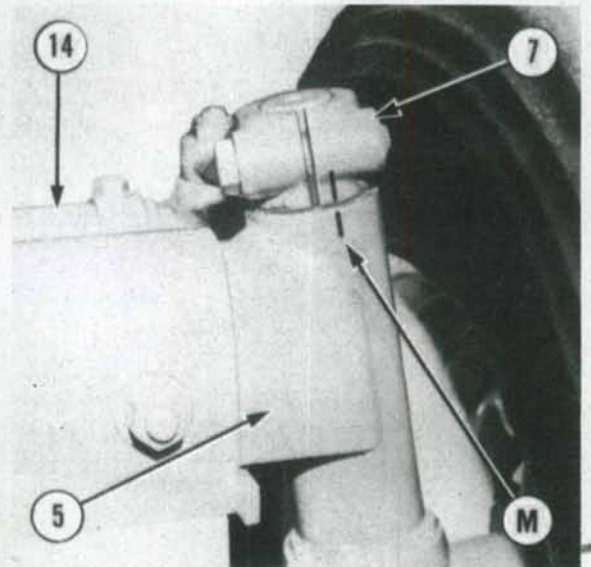
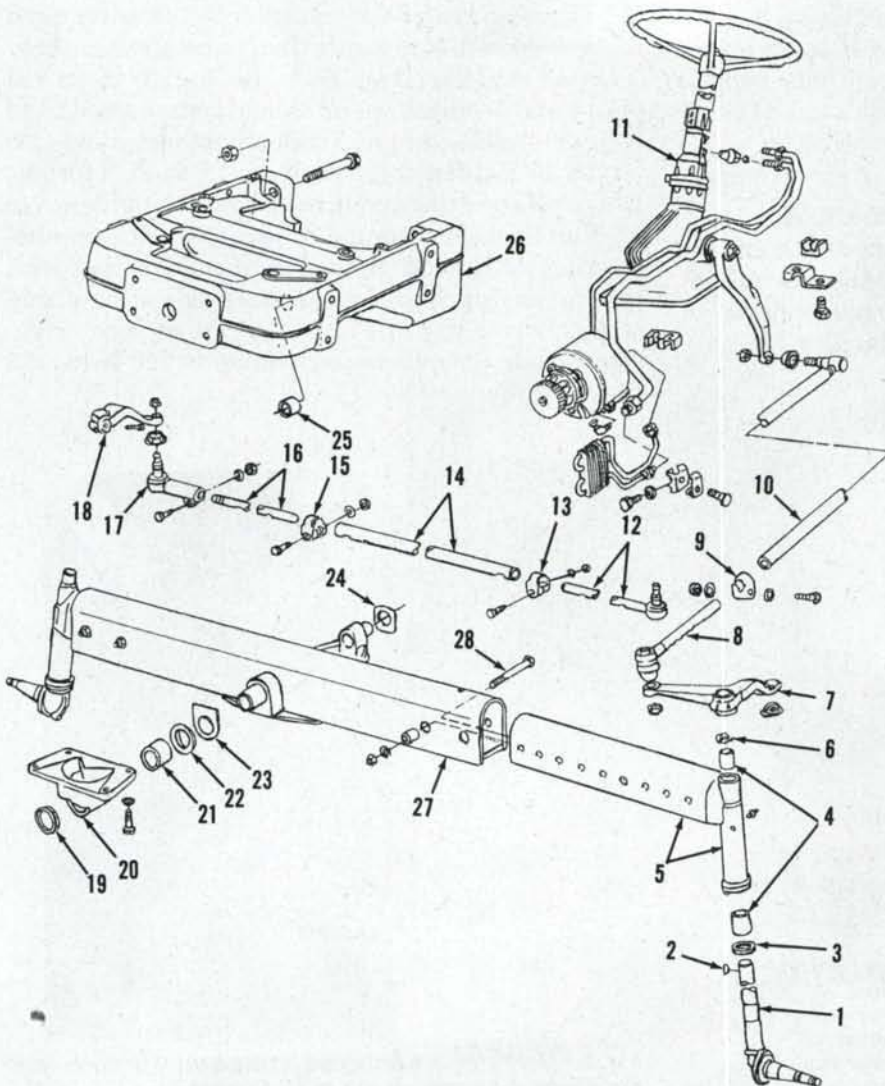

Fig. 2—Marks (M) are provided on the axle extensions and the steering arms to assist in setting toe-in.
Fig. 4—Exploded view of row crop, two-wheel-drive front axle, typical of models with power steering (shown) and manual steering.
Recommended toe-in is 0-13 mm (0-1/2 inch) for all models. Spindle arms and axle extensions are marked as shown at (M—Fig. 2) to assist setting toe-in. To adjust length of tie rod when changing axle width, remove track adjusting screws (13—Fig. 3), slide rod inside tube until the appropriate hole is aligned, then install screw (13). To make small toe-in adjustments, loosen clamp bolt (B), remove screw (13), then turn the threaded section (T) until toe-in is correct. Reinstall screw (13) and tighten clamp bolt. On models with drag link, remove bolt from clamp (9—Fig. 4) and extend or retract drag link as required to correspond to axle width, then reinstall clamp bolt.
On all models, clamp bolts (B—Fig. 3) in tie rod ends (used to adjust toe-in) should be tightened to 45 N·m (33 ft.-lbs.) torque. Track adjusting screws (13) should be tightened to 105 N·m (78 ft.-lbs.) torque. Drag link adjusting clamp bolt should be tightened to 13 N·m (9 ft.-lbs.) torque if equipped with manual steering; 35 N·m (25 ft.-lbs.) torque if equipped with power steering. Tighten the track adjusting clamp screws (28—Fig. 4 or Fig. 5) that attach axle extensions inside the axle center section to 210 N·m (155 ft.-lbs.) torque.
To remove spindle (1—Fig. 4 or Fig. 5), first remove the wheel and hub. Disconnect tie rod end from steering arm (7 or 18). On models with manual or power steering, detach drag link if left side is being removed. On all models, remove clamp screw from steering arm, then remove steering arm. Remove key (2) and washers (6) from top of spindle, then lower spindle out of axle extension (5). Remove thrust bearing (3) from spindle. Clean and inspect parts for wear or other damage and renew as necessary.
4. AXLE CENTER MEMBER, PIVOT PIN AND BUSHINGS. To remove front axle assembly, raise front of tractor in such a way that it will not interfere with the removal of the axle. A hoist may be attached to front support or special stands can be attached to sides. Removal of the axle center member may be easier if the axle extension and spindle assembly is first removed from each side; however, the complete assembly can be removed as a unit. Remove front wheels and weights, then support the axle with a suitable jack or special safety stand to prevent tipping while permitting the axle to be lowered and moved safely. Disconnect drag link from steering arm of models without hydrostatic steering. On models with hydrostatic steering, disconnect hoses from steering cylinder and cover openings to prevent entry of dirt. On all models, unbolt and remove pivot bracket (20—Fig. 4 or Fig. 5). Move axle forward until axle rear pivot is free from pivot in front support (26). Lower axle assembly and carefully roll axle away.
Fig. 5—Exploded view of two-wheel drive, row crop front axle used with hydrostatic steering. Refer to Fig. 4 for legend except clamp bolt (12), track adjusting screw (13) and steering cylinder (29).